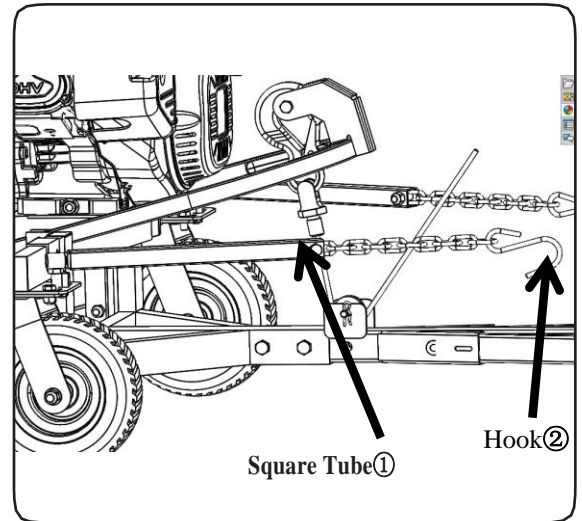

Figure 2-8
Rotate the square tube① connected with the iron chain to adjust the appropriate length, and hook the two hooks② on the plow to the front safety frame of UTV, so that it can be effectively fixed to prevent the plow from swinging, as shown in figure 2-8.